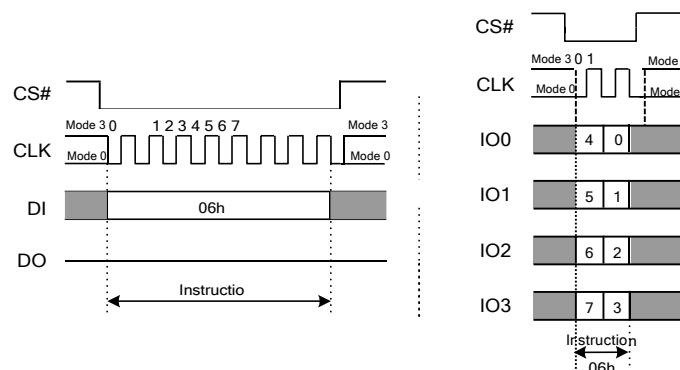

Figure 7.2 Write Enable Instruction(SPI or QPI Mode)
The Write Enable instruction (Figure 7.2) sets the Write Enable Latch (WEL) bit in the Status Register to a 1. The WEL bit must be set prior to every Page Program, Sector Erase, Block Erase, Chip Erase and Write Status Register instruction. The Write Enable instruction is entered by driving CS# low, shifting the instruction code “06h” into the Data Input (DI) pin on the rising edge of CLK, and then driving CS# high.